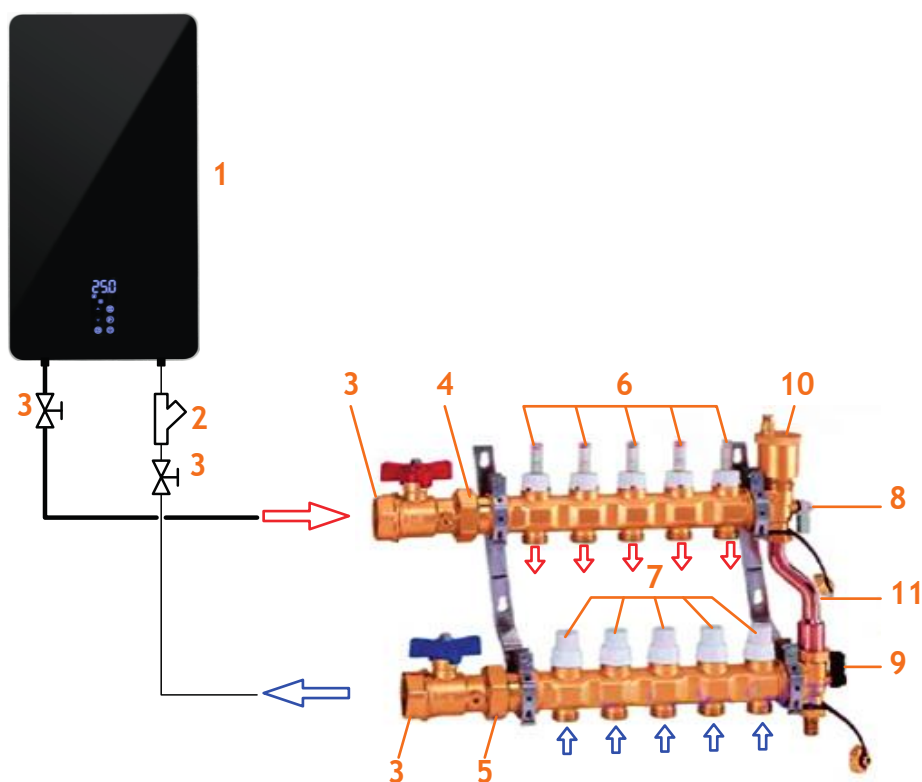

Figure 25 - Scheme of connecting the boiler to the underfloor heating system.
5.9.1 When connecting the ESPRO electric boiler to heating systems with underfloor heating (see Figure 25), use the underfloor heating collector with MANDATORY air vents and bypass installed on it. If necessary, with a large area of the warm floor, the collector of the warm floor is supplemented with a circulation pump.
If the boiler is installed in a heating system with underfloor heating without additional air ducts on the manifold, as indicated in Figure 25, the consumer loses the right to warranty service, and the manufacturer is not responsible for the failure of the boiler.
The diagrams shown in Figures 25 are not a technical design. To avoid improper functioning of the heating system, it is necessary to install and use the equipment in accordance with the technical design. To develop a project, contact a specialized project organization